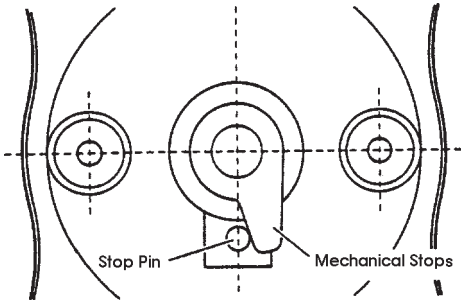

Fig 6
16. Close the valve by turning the cartridge stem clockwise. Position the mechanical stops as shown in figure 6 over the cartridge stem and push it into place. Thread on the cap nut and the stem extension with All Thread; then you are ready for the trim.
Incorrect setting of the mechanical stop(s) against the stop pin causing a partially opened cartridge.	Reset the mechanical stop as described in figure 6 previously.